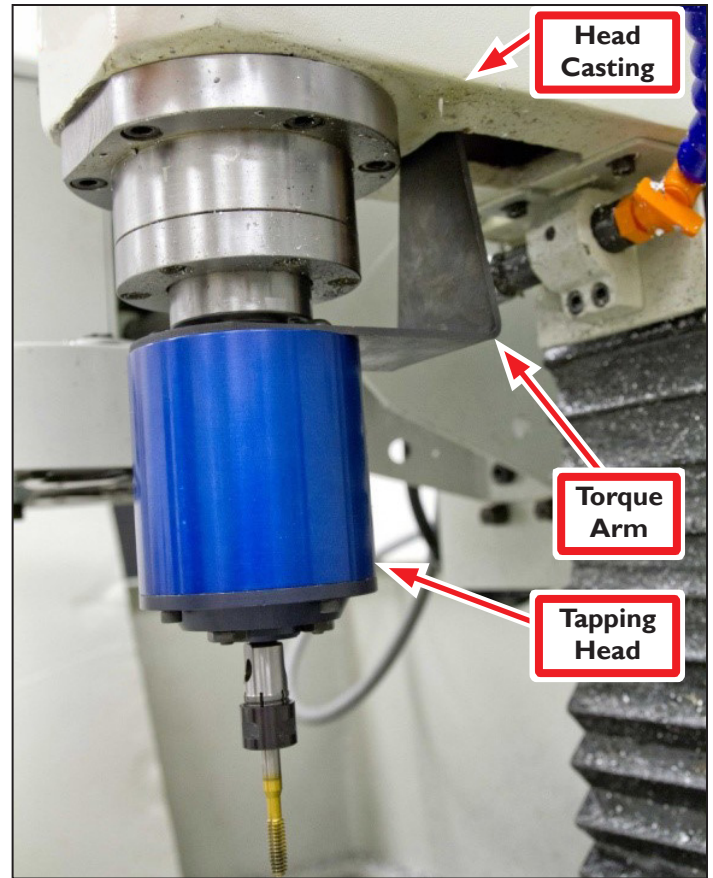

Figure 13
13. Install Tapping Head into spindle; position Torque Arm inside cavity on the underside of Head Casting (see **Figure 13**).